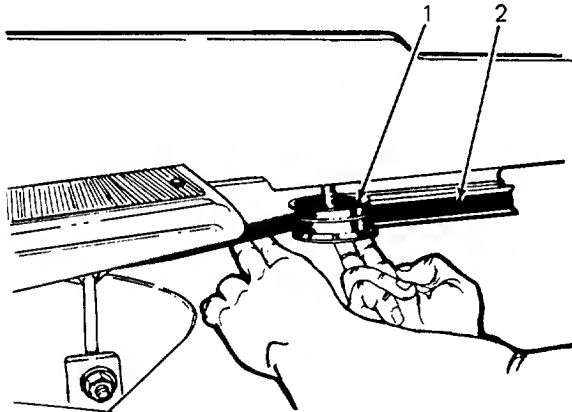

Figure 49
8. Pull idler pulley away from the tractor and then place drive belt behind it. Release idler pulley. (Refer to Figure 49.)